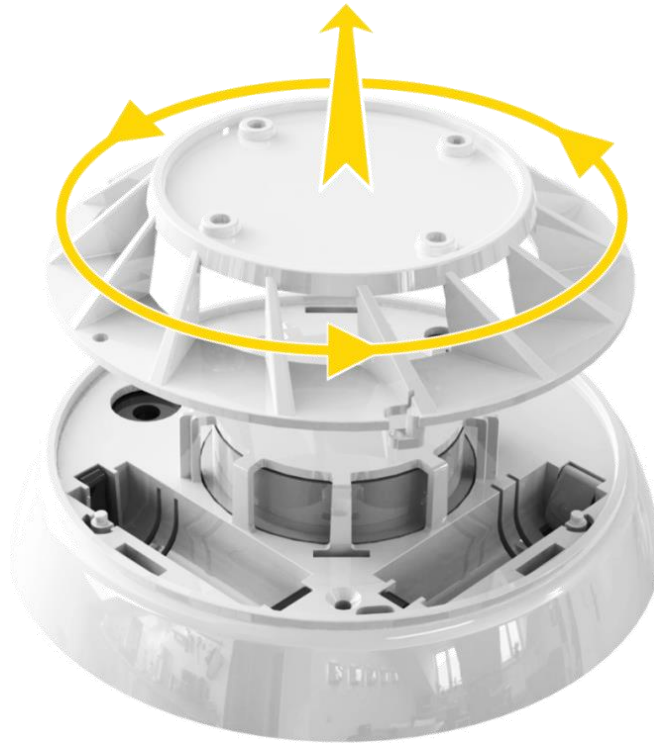

Figure 130: Disassembling the Mounting Bracket of the Smoke Detector
1. Remove the mounting bracket (base of the Smoke Detector) from the device by turning it counter-clockwise as demonstrated in Figure 130 below.